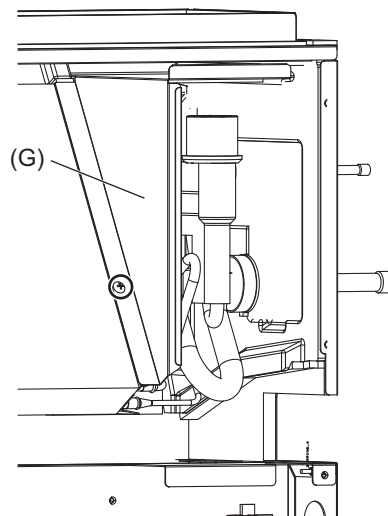

Fig.14
- (1) Remove the front plate (E) with procedure [1]-4.
- (2) Remove the control box (F) with procedure [1]-4.
- (3) Pull out the drain pan with procedure [1]-4.
- (4) Remove a fixing screw on the heat exchanger cover (G) to remove it. (Fig.14)